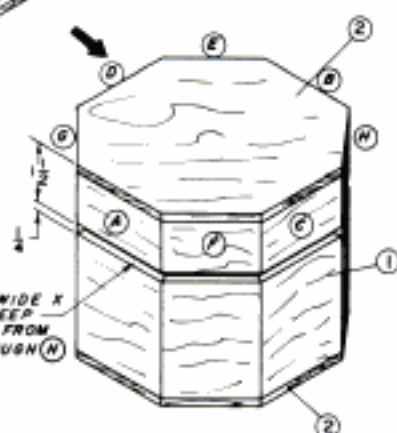
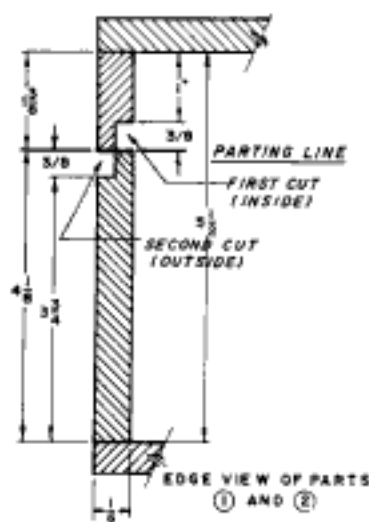

FIG. 5
FIG. 1
**5.** Cut the lid. To free the lid, cut a groove along the line,  $\frac{1}{4}$  inch wide and  $\frac{3}{16}$  inch deep, as shown in figure 5, page 97. It should meet the inside groove to form a lipped lid. Follow a sequence of cuts as indicated by the letters A through H. If the lid fits too tightly, sand the lower of the two lips.
*Like other boxes in this book, I built a sealed box and then cut it open to create the lid. This box has a lipped lid that I created as I cut open the box. I did this by cutting two adjoining grooves. Before assembly, I cut a groove inside the box. After assembly, I cut the second groove on the outside, creating the lip, as shown in figure 1, page 106.*
Cut the second groove that separates the lid from the rest of the box and forms the dust lip. Set the table saw fence to position the cut, as shown in figure 1, and cut a groove  $\frac{1}{4}$  inch deep and  $\frac{3}{8}$  inch wide on the two long sides of the box. To keep the lid from wobbling while cutting the ends of the box, tape  $\frac{3}{8}$  inch-wide spacers in the kerf before cutting the end grooves, as shown in figure 5, page 107.